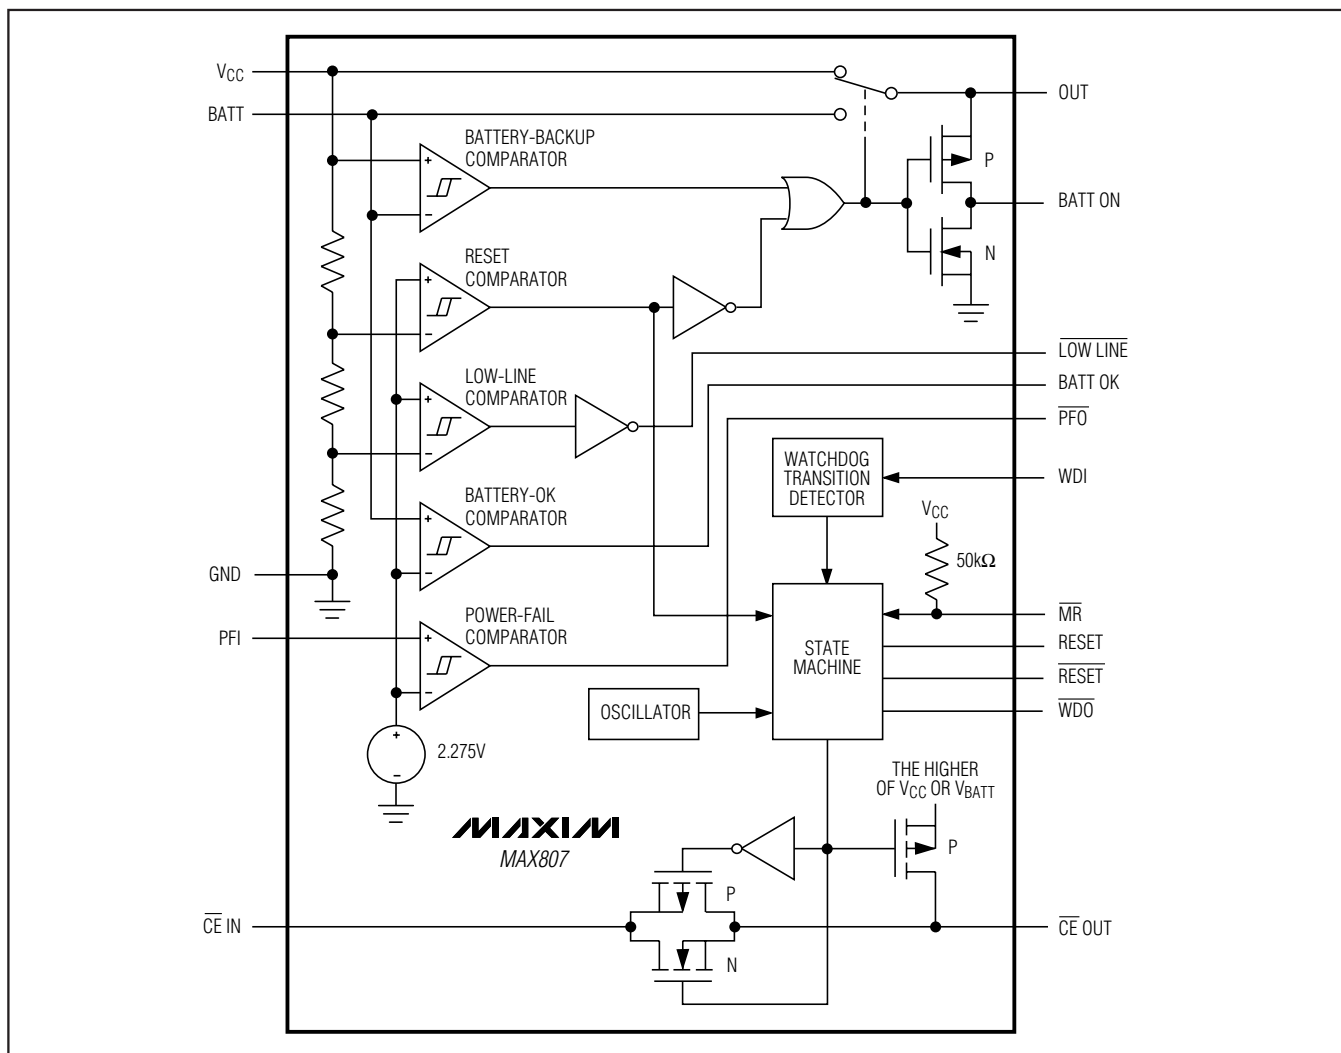

Figure 1. Block Diagram
The MAX807 μP supervisory circuit provides power-supply monitoring, backup-battery switchover, and program execution watchdog functions in μP systems (Figure 1). Use of BiCMOS technology results in an improved 1.5% reset-threshold precision, while keeping supply currents typically below 70 μA . The MAX807 is intended for battery-powered applications that require high reset-threshold precision, allowing a wide power-supply operating range while preventing the system from operating below its specified voltage range.
The MAX807 provides internal gating of chip-enable (CE) signals to prevent erroneous data from corrupting the CMOS RAM in the event of a power failure. During normal operation, the CE gate is enabled and passes all CE transitions. When reset is asserted, this path becomes disabled, preventing erroneous data from corrupting the CMOS RAM. The MAX807 uses a series transmission gate from the Chip-Enable Input (CE IN) to the Chip-Enable Output (CE OUT) (Figure 1).